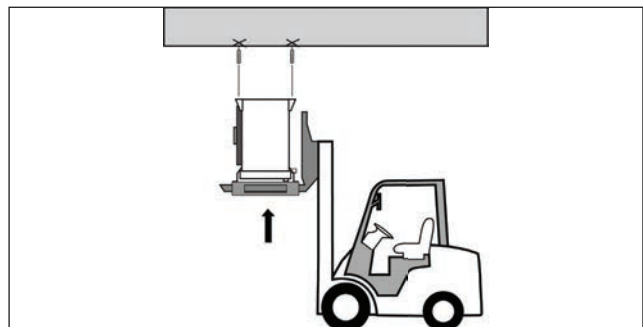

Fig. 9.2
2. Lift the unit cooler to the ceiling using the wooden pallet (Fig. 9.2).